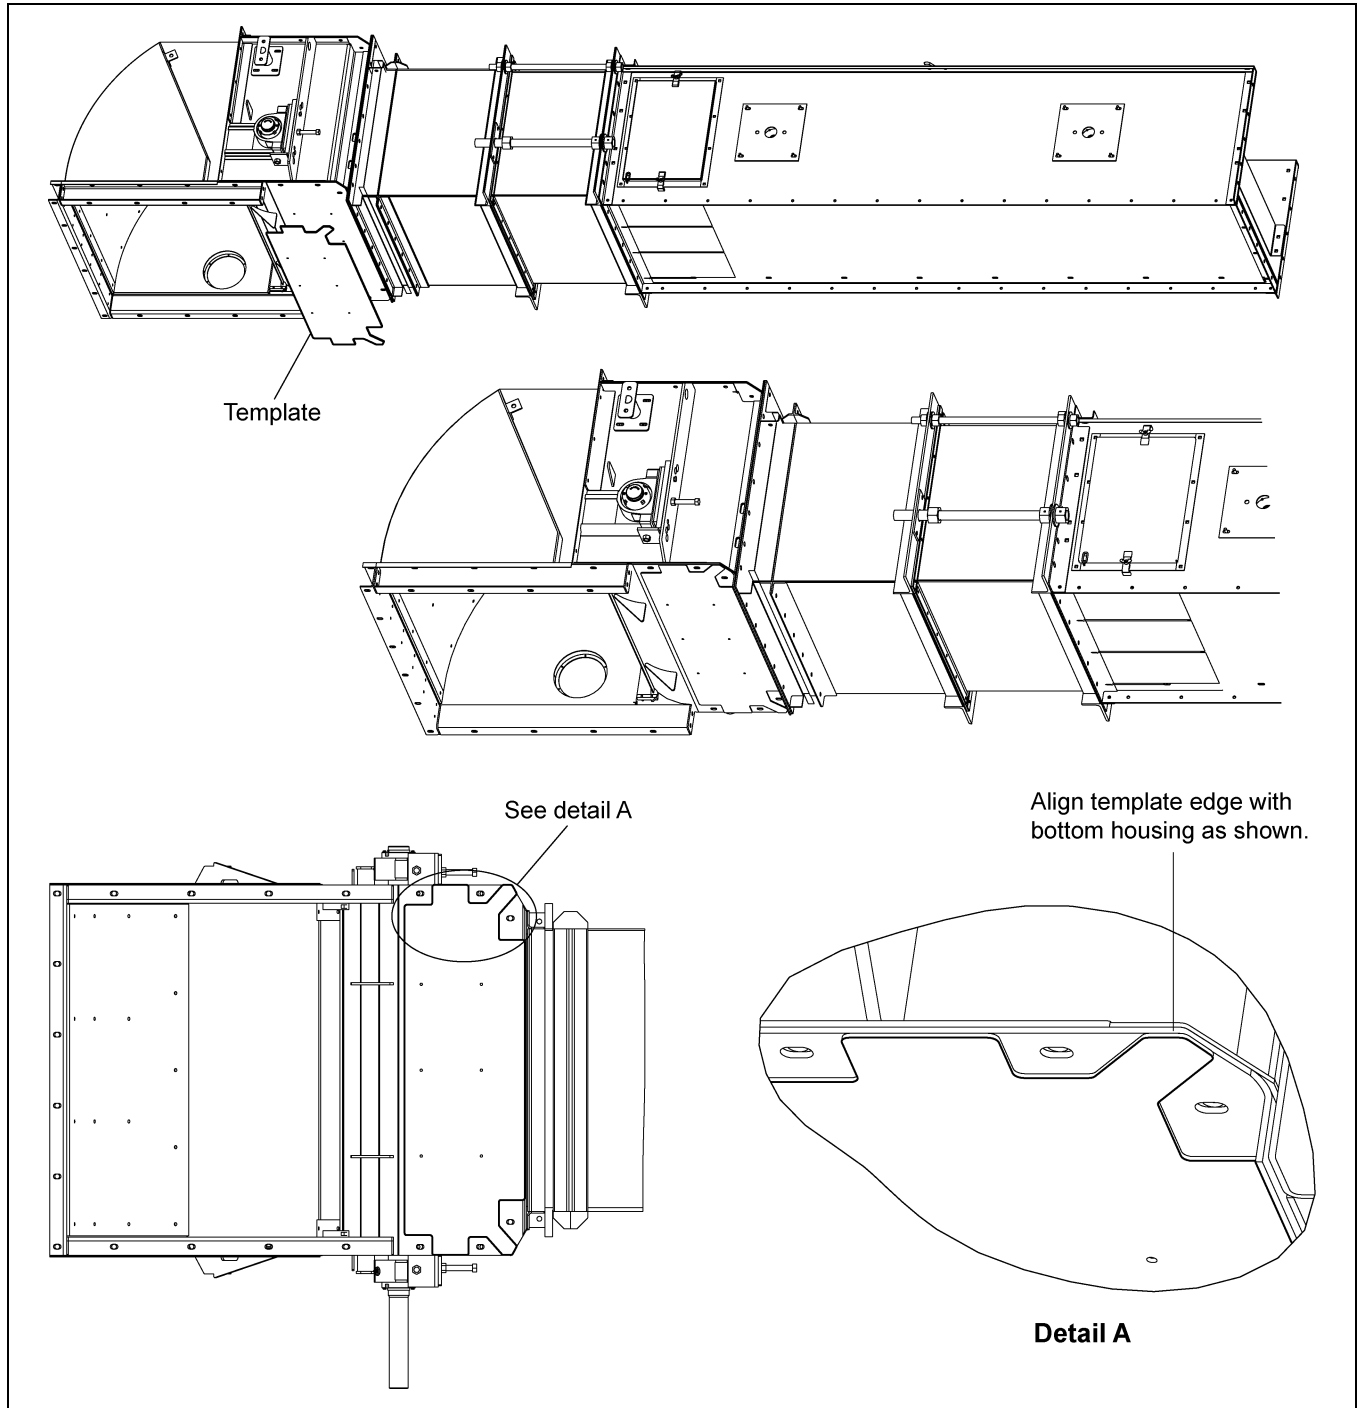

Figure 1
2. Using the template as a guide, drill six (6) 9/32" holes into the bottom of the housing. (*See Figure 1.*)